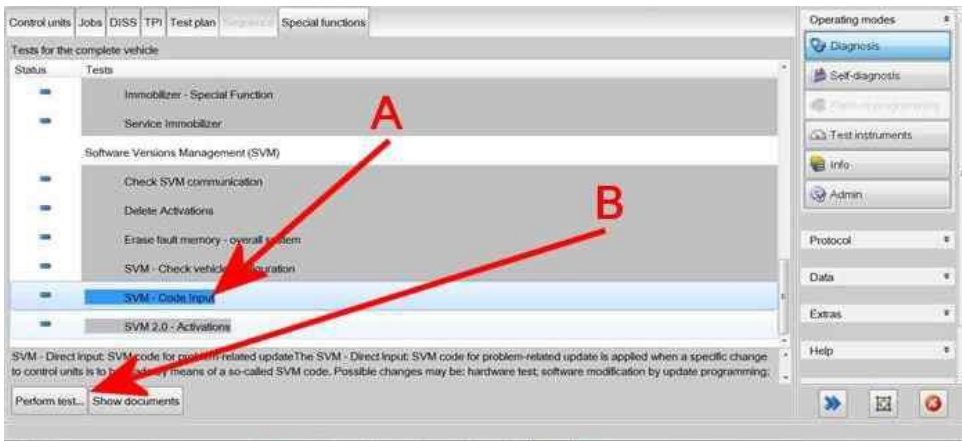

Figure 13
- Referring to Figure 13 - Within the Special functions tab select SVM – Code Input (A) then select Perform test (B)